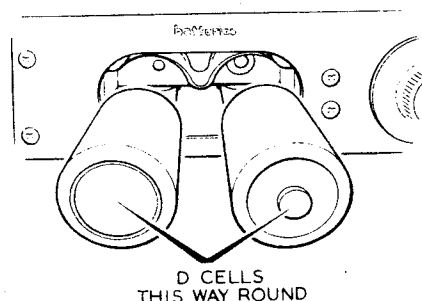

Figure 6
11. Check that the two "D" cells are correctly fitted the right way around in the battery box, Figure 6.